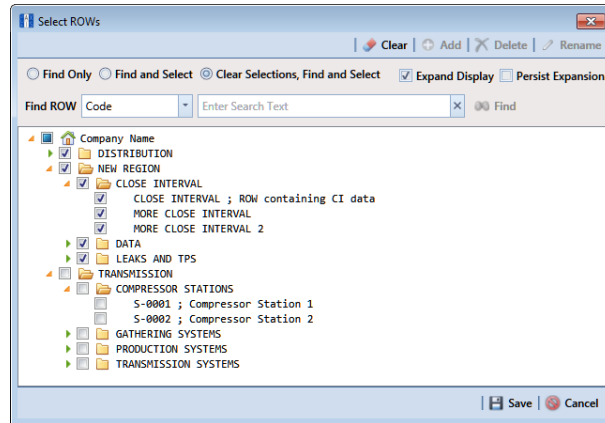

Figure 7-47. Select ROWs
- 1) Select one or more pipeline segments in the *Select ROWs* window (Figure 7-47). Select pipeline segments with facilities included in a schedule, then click  **Save** to close the window.